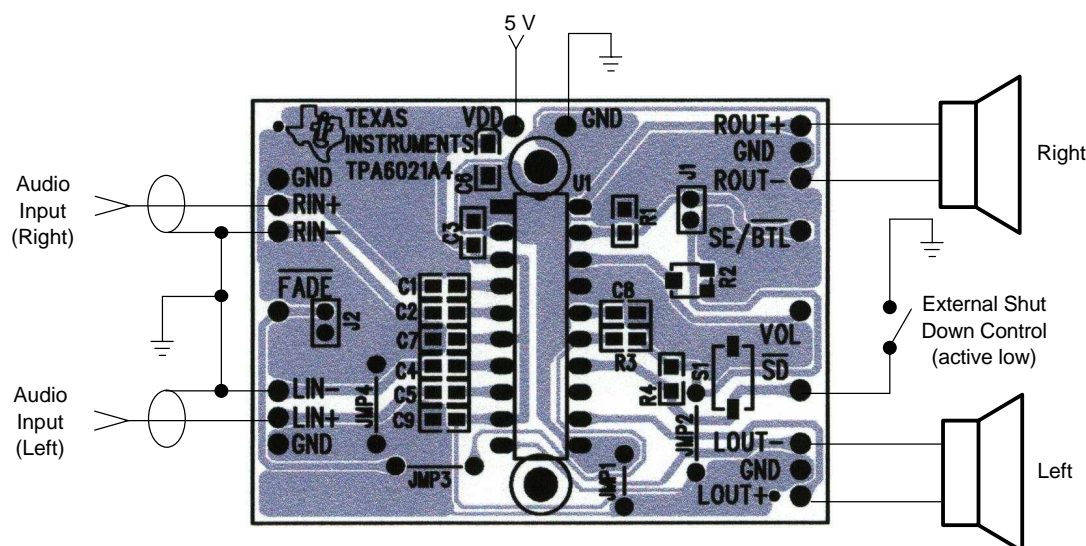

Figure 2. TPA6021A4 EVM Connected for Stereo BTL Output
- a. For BTL output, connect a speaker to the module OUT+ and OUT– pins of each channel (see Figure 2),